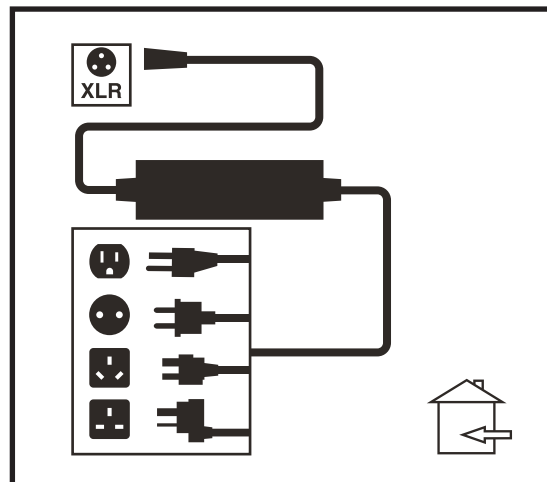

Figure 18. Battery Charger
3. Plug the off-board charger into the off-board charger/programming socket on the controller. **See figure 18.**